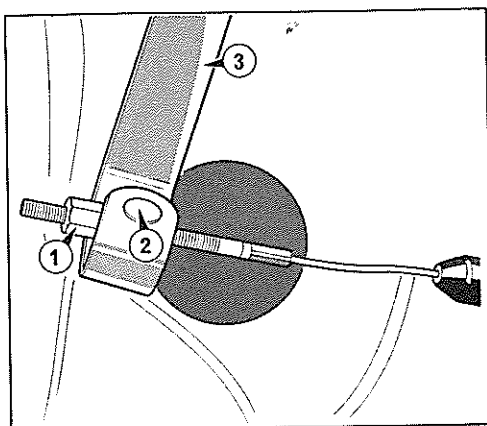

Figure 39 Clutch adjuster
- 1 Pull back the clutch cable inner, releasing the adjuster nut on the threaded portion of the cable from the trunnion located in the clutch operating arm. (Figure 39).